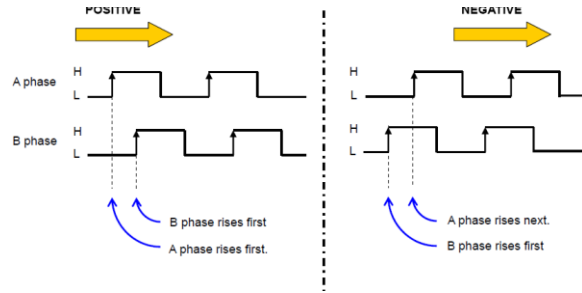

Figure 2-5
- By default, when the A phase leads the B phase motion is in the positive direction, when B phase leads the A phase motion is in the negative direction. The direction can be changed by **POL[axis](Bit10)**. See Figure 2-5.